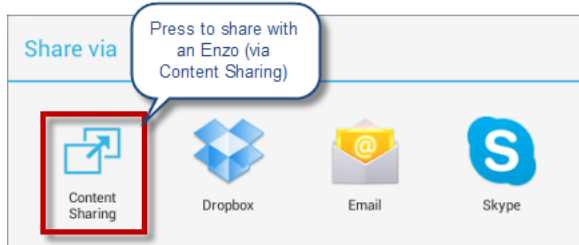

FIG. 146 Application "Share" icon, and Content Sharing icon (as displayed in an Image View page)
- In cases where the application presents a "Share" function as an application-specific feature, "Content Sharing" is often included as an option (FIG. 146). In this case, select *Content Sharing* to share with Enzo.